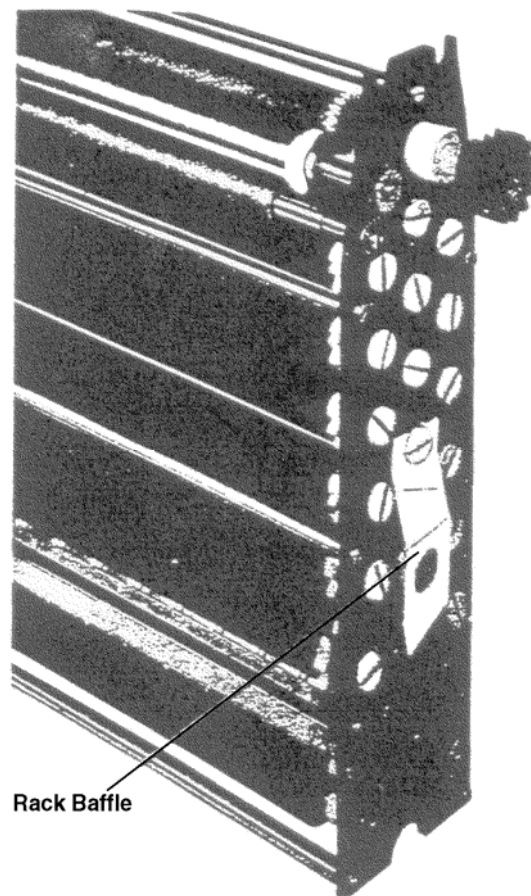

Figure 2-12. Rack baffle.
(7) Check springs. Clean, check for wear, and replace if necessary.
(8) Check the rewet roller. Check the rewet roller for signs of wear. Be sure the roller is in contact with rollers above and below it.
(9) Check the baffle. Be sure to center the tube portion of the rack baffle on the hole so that it may depress when you put the rack into the tank. Refer to figure 2-12.